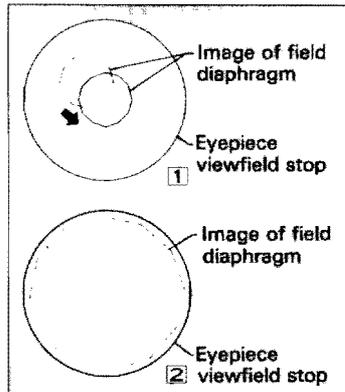

Fig.3-14
- 14) Focus and center the condenser lens (Fig. 3-14). (See p 21, Manipulation of Each Element-6).)